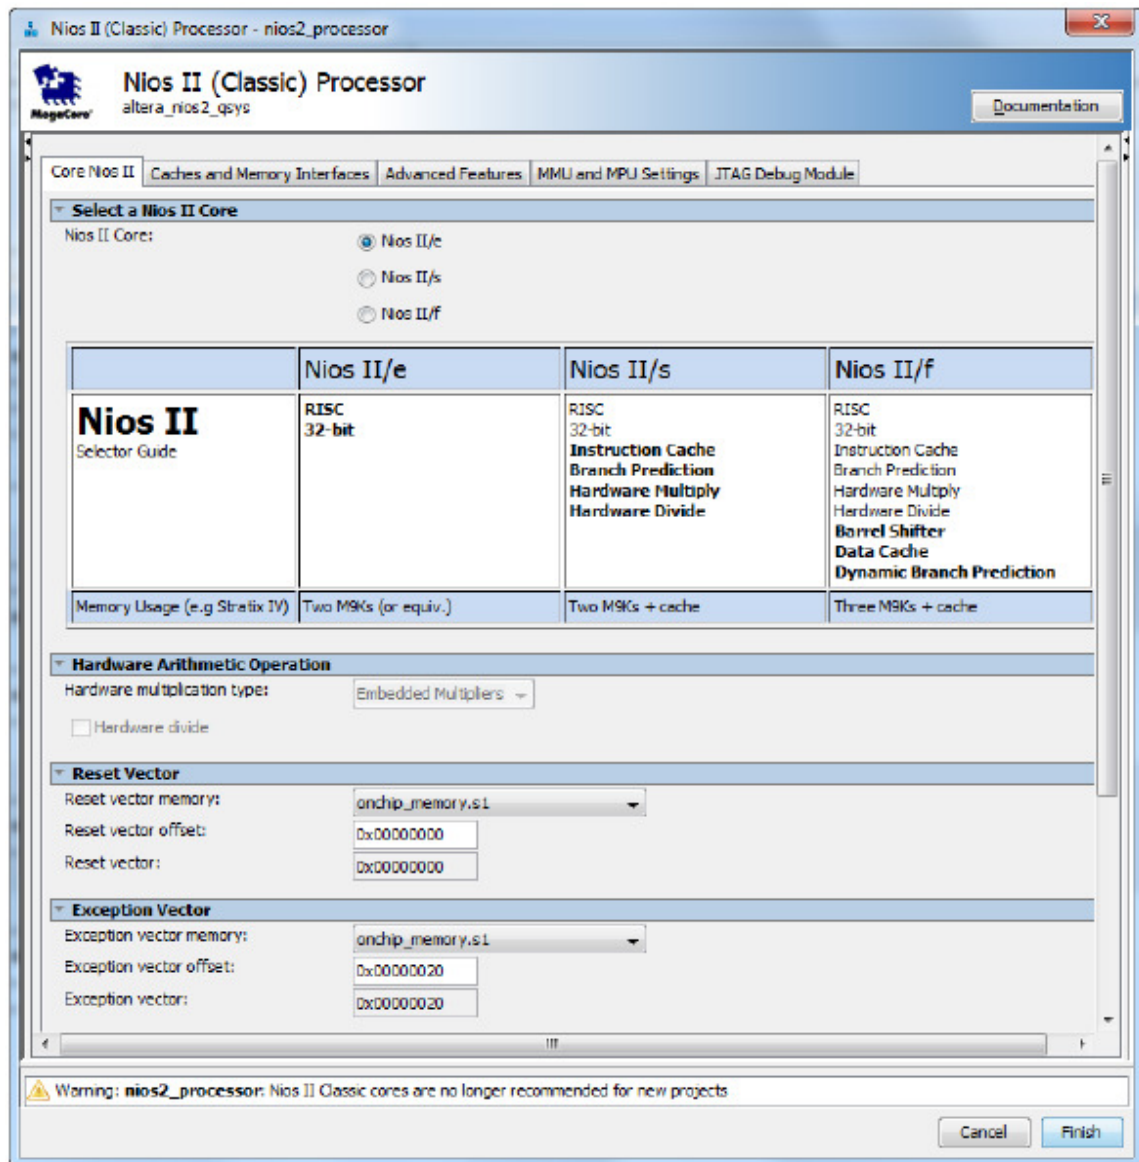

Figure 17 Define the reset and exception vectors
- Right-click on the *nios2\_processor* component in the window displayed in Figure 16, and then select **Edit** to reach the window in Figure 17
- Select *onchip\_memory.s1* to be the memory device for both reset and exception vectors, as shown in Figure 17